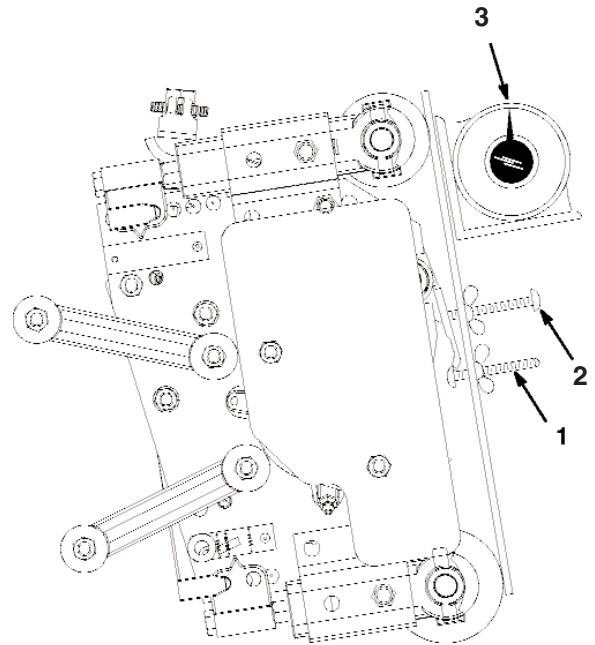

Figure 12
3. Place the gauge bar across the front and rear rollers. The first screw head needs to fit snugly over the edge of the bedknife while the gauge bar contacts the rollers (Fig. 12).
5. Place an angle indicator on the gauge bar and record the gauge bar angle (Fig. 12).